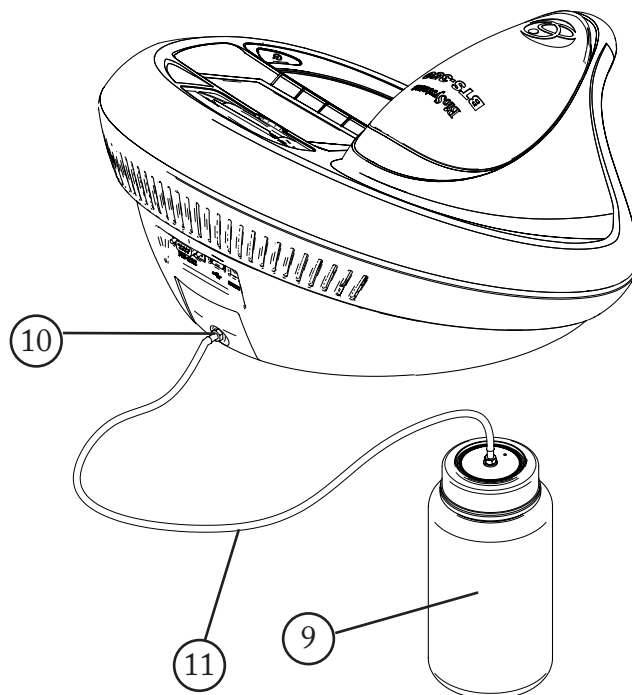

Figure 2.6
The suctioning tube (figures 2.6 and 2.7) is placed on the cuvette-holder tray. The suctioning tube (1) penetrates the housing through a rubber part (2) that serves as a guide. This tube is fixed to the cuvette (3) by an input fitting (4). On leaving the cuvette, it is connected to the dosing tube (5) through the output fitting (6). The dosing tube is housed in the peristaltic pump (7) and is finally connected to the waste output fitting (8).
The waste bottle (9) (Figure 2.6) is connected to the fitting (10) at the rear part of the appliance by the silicone tube (11).